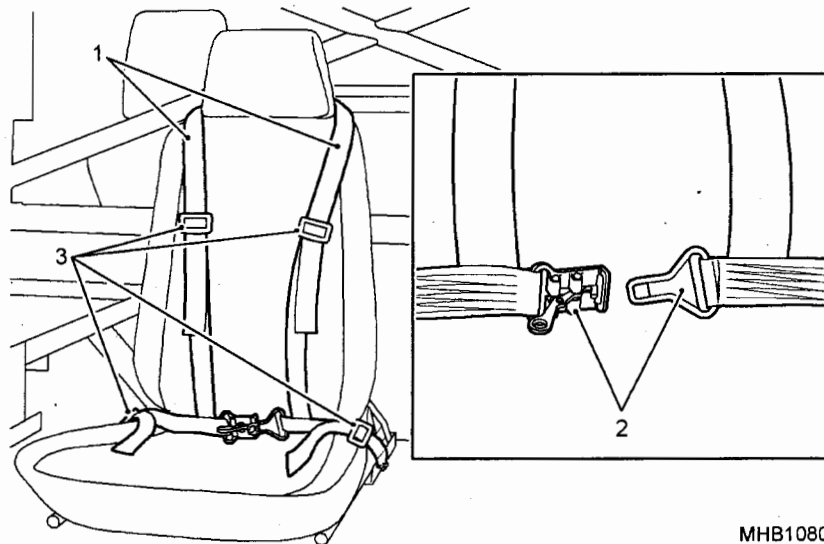

Fig 3 Gunners seat belt
- 5.3 To fasten draw the belts (Fig 3 (1)) over the shoulders and across the hips.